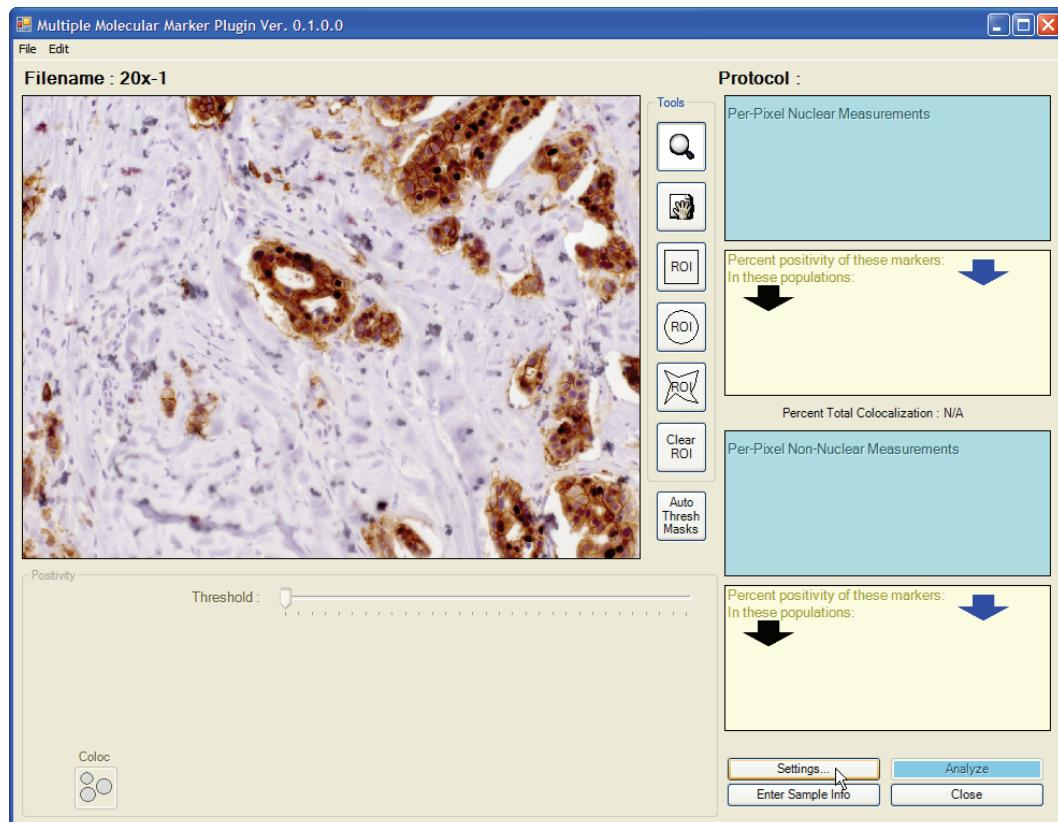

Figure 51. Multiple Molecular Marker Plugin
4. Please be patient. In a few moments, the cube will open in the **Multiple Molecular Marker** dialog box (Figure 51).